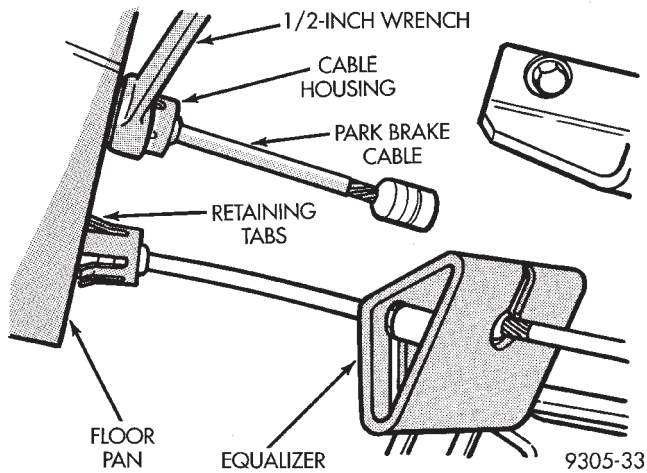

Fig. 5 Park Brake Cable Removal From Floor Pan
(7) Remove rear park brake cable from vehicle floor pan using the following procedure. Disconnect rear park brake cable requiring replacement from equalizer (Fig. 5). Slip the box end of a 1/2 inch over end of park brake cable (Fig. 5). This will compress